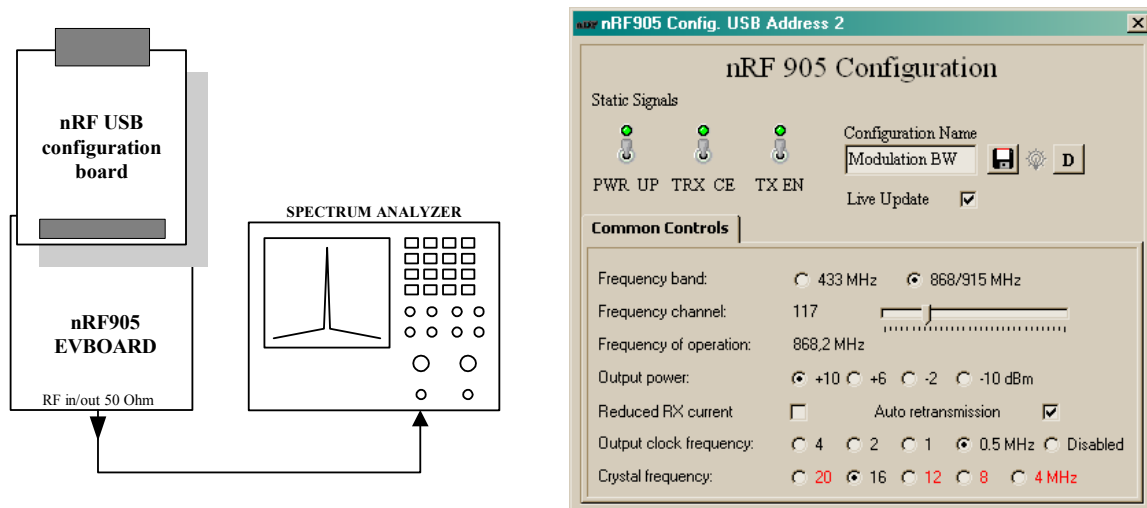

Figure 5 TX modulation bandwidth and spurious emission test bench
The test bench for TX modulation bandwidth and spurious emission measurements is shown Figure 5.
- The **nDP** should now launch a **nRF905** Configuration “**Modulation BW**” window as shown in Figure 5